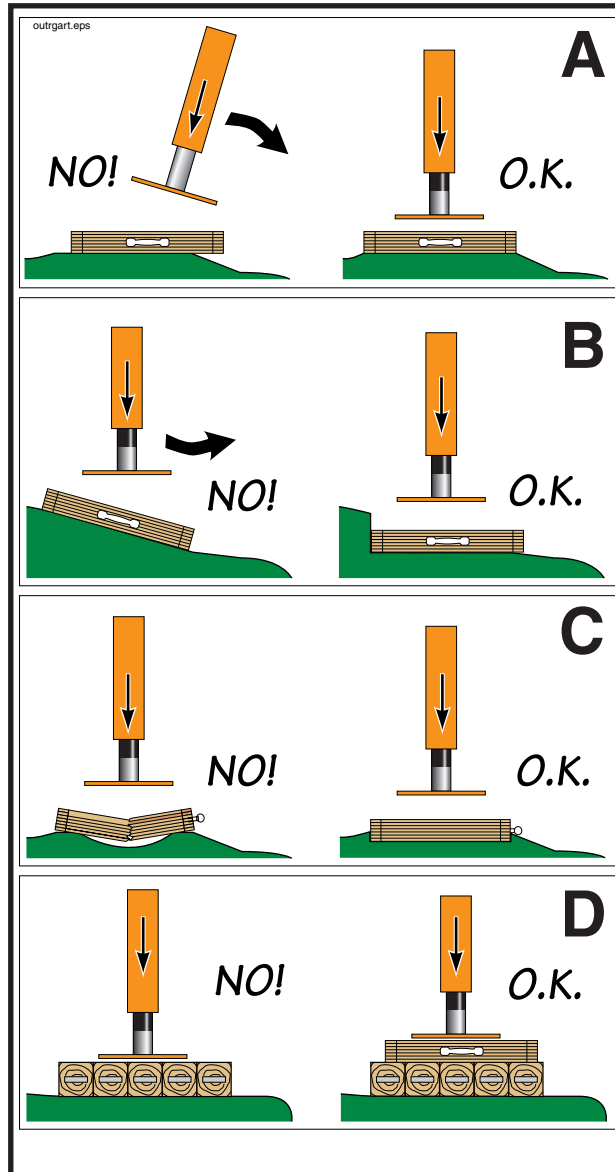

Figure 30
⚠ WARNING Tipping hazard! Take care when setting the outriggers (Figure 30). Never set up on uneven or hilly soil or try to bridge a hole with cribbing. In these cases, you could dig a flat spot in the soil (A, B, & C). Be sure that the outrigger pad contacts all pieces of cribbing. Run cribbing in the opposite direction, if needed (D).